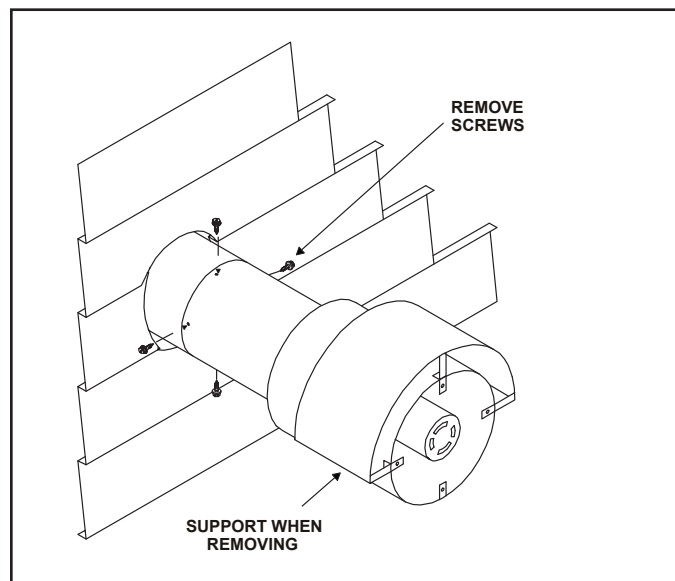

Figure 7.40
- D. With the cable loosened from the power vent assembly, remove the sheetmetal screws used to secure the power vent assembly in place. Firmly support the assembly to prevent the unit from falling after the sheetmetal screws have been removed. See Figure 7.40.